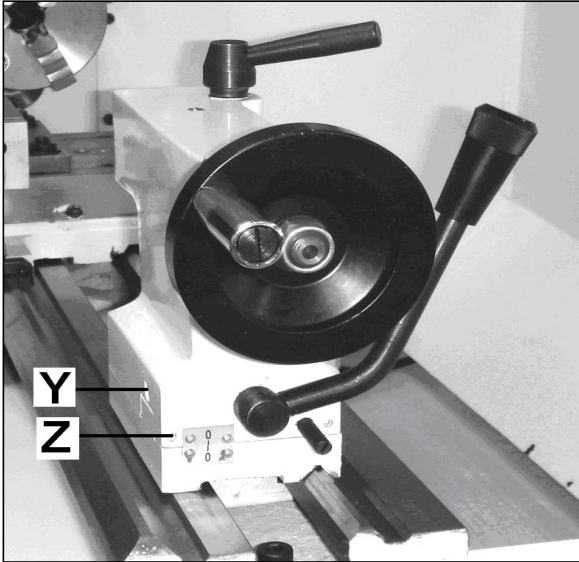

Figure 8-3: Taper turning between centres
To turn a taper, offset the tailstock, loosen the locking screws (Z, Fig 8-3) and use screws (Y) to adjust.